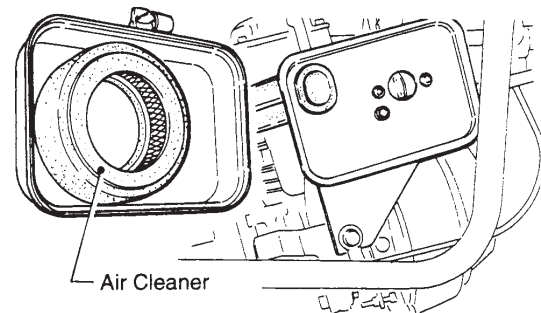

Figure 14. Engine Air Cleaner
4. The air cleaner (Figure 14) on the engine side will hardly be contaminated. However, if it is after cleaning